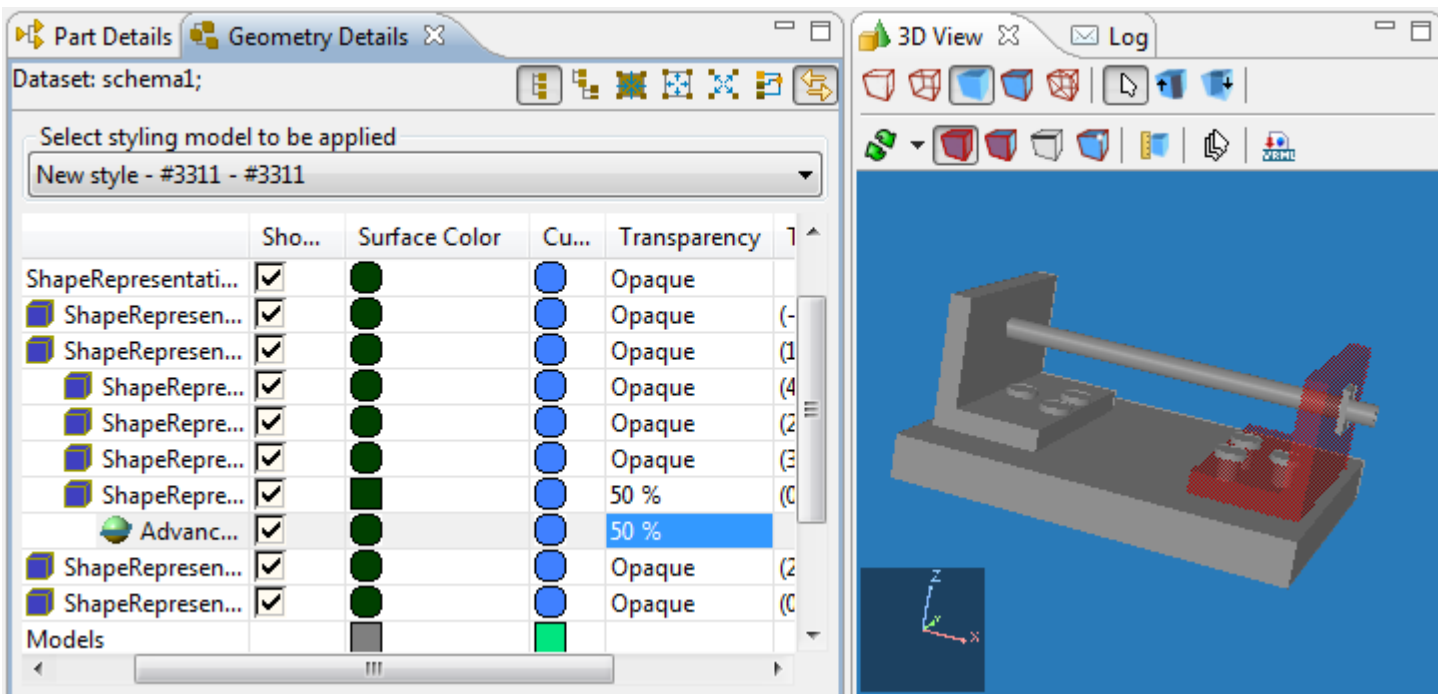

Figure 5. Changed transparency level value in Transparency column (Geometry Details view) and transparent object in 3D View
- Changing representation properties (transparency, surface or curve color) in the  **Geometry Details** view (see Figure 5), the changes are reflected in the  **3D View**.